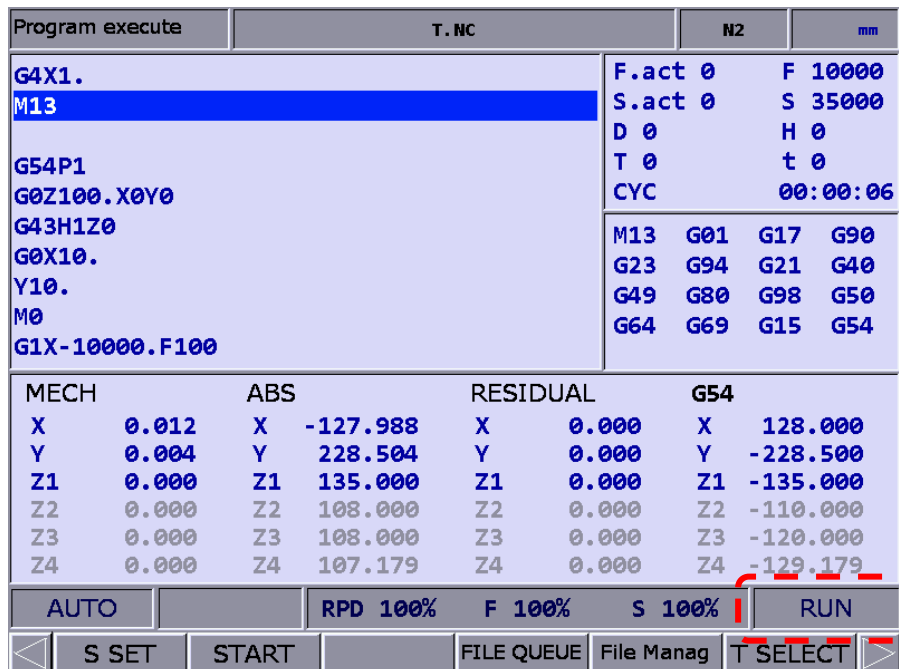

Figure 6.7.1 M, S, and T codes in execution
When the system is executing the program and M, S, or T code is executed, the system stops executing the program that follows and the state shows "RUN" (as shown in Figure 6.7.1).
When the system is executing the program and the M, S, or T code is executed, the system stops executing the program which follows, sets the state to “RUN” (as shown in Figure 6.7.1), and sets the [M, S, and T codes execution] flags to On. After the MLC program planned by the users is complete, you need to set **M1152 [M, S, and T codes execution complete]** to On and then the controller can set the [M, S, and T codes execution] flags to Off to continue executing the program which follows.
When the system is executing the program and an M code is executed, the system stops executing the program which follows, sets the state to “RUN” (as shown in Figure 6.7.1), and sets **M2208 [M code execution]** to On. After the MLC program planned by the users is complete, you need to set **M1152 [M, S, and T codes execution complete]** to On and then the controller can set **M2208 [M code execution]** to Off to continue executing the program which follows.
When the system is executing the program and an S code is executed, the system stops executing the program which follows, sets the state to “RUN” (as shown in Figure 6.7.1), and sets **M2209 [S code execution]** to On. After the MLC program planned by the users is complete, you need to set **M1152 [M, S, and T codes execution complete]** to On and then the controller can set **M2209 [S code execution]** to Off to continue executing the program which follows.
When the system is executing the program and a T code executed, the system stops executing the program which follows, sets the state to “RUN” (as shown in Figure 6.7.1), and sets **M2210 [T code execution]** to On. After the MLC program planned by the users is complete, you need to set **M1152 [M, S, and T codes execution complete]** to On and then the controller can set **M2210 [T code execution]** to Off to continue executing the program which follows.
When the system is executing the program and an M code is executed, the system stops executing the program which follows, sets the state to “RUN” (as shown in Figure 6.7.1), and writes the M code data which is executed to **D1368 [M code data]**.
When the system is executing the program and an S code is executed, the system stops executing the program which follows, sets the state to “RUN” (as shown in Figure 6.7.1), and writes the S code data which is executed to **D1369 [S code data]**.
When the system is executing the program and a T code is executed, the system stops executing the program which follows, sets the state to "RUN" (as shown in Figure 6.7.1), and writes the T code data which is executed to **D1370 [T code data]**.
- a. The system continues to execute the program which follows and sets the state as "RUN" (as shown in Figure 6.7.1).